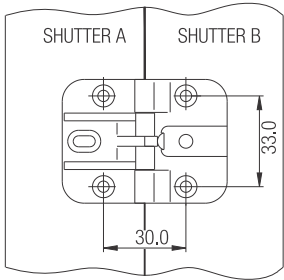

Fig. 1
1. Hinges are fitted one above the other as per Fig. 1 on the inside of the folding shutter A & B.